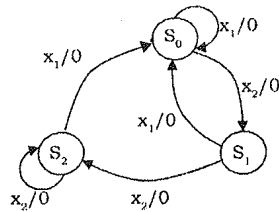

Figure 6.93 State Diagram
Step 3: The State Diagram for the circuit diagram is given in figure 6.93